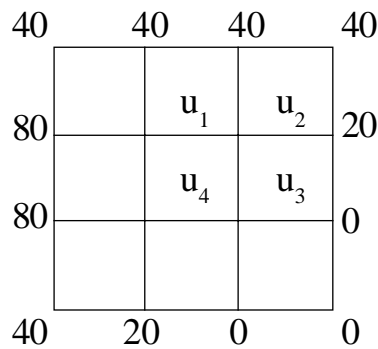

Fig. 11a
11. a) Solve the Laplace equation $\frac{\partial^2 u}{\partial x^2} + \frac{\partial^2 u}{\partial y^2} = 0$ at the pivotal points of the grid shown in the Fig. 11a. 9